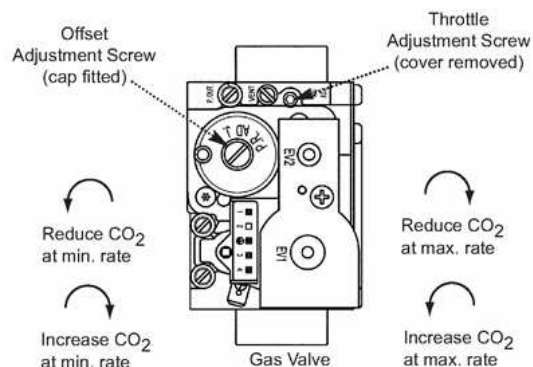

Fig. 64
4. Check the CO₂ is 9.3% ±0.1%. If the CO₂ is incorrect alter the Throttle Adjustment Screw (Fig. 64). Turn the screw anticlockwise to increase the CO₂ or clockwise to decrease (2.5mm hexagon key).
6. Check the CO₂ is 8.9% ±0.1%. If the CO₂ is incorrect alter the Offset Adjustment Screw (Fig. 64). Turn the screw clockwise to increase the CO₂ or anticlockwise to decrease (4mm hexagon key).